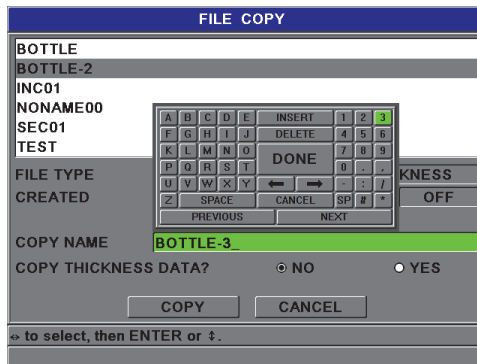

Figure 7-10 Copying a file
2. In the **FILE COPY** screen (see Figure 7-10 on page 125), highlight the desired source file in the list, and then press **[ENTER]**.